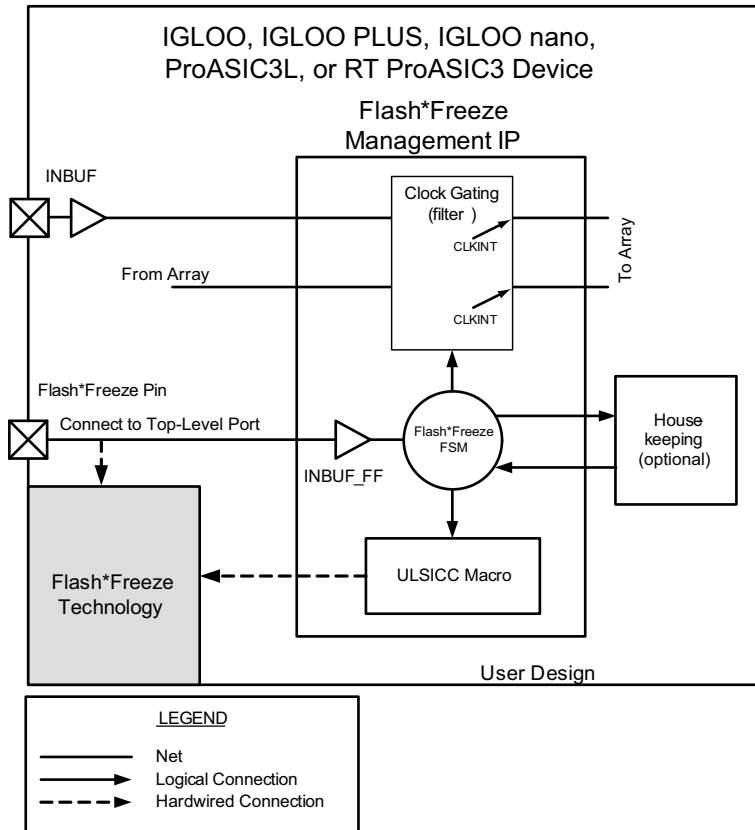

Figure 2-10 • Flash*Freeze Management IP Block Diagram
The Flash*Freeze management IP is comprised of three blocks: the Flash*Freeze finite state machine (FSM), the clock gating (filter) block, and the ULSICC macro, as shown in Figure 2-10.
- When the INBUF_FF macro is used, the FF pin will establish a hardwired connection to the Flash*Freeze technology circuit in the device, as shown in Figure 2-1 on page 25, Figure 2-3 on page 27, and Figure 2-10 on page 37, and described in the "Flash*Freeze Type 1: Control by Dedicated Flash*Freeze Pin" section on page 24.
The User Low Static ICC (ULSICC) macro allows the FPGA core to access the Flash*Freeze Technology block so that entering and exiting Flash*Freeze mode can be controlled by the user's design. The ULSICC macro enables a hard block with an available LSICC input port, as shown in Figure 2-3 on page 27 and Figure 2-10 on page 37. Design rules for the ULSICC macro are as follows:
| | Figure 2-5 • Narrow Clock Pulses During Flash*Freeze Entrance and Exit – new Figure 2-10 • Flash*Freeze Management IP Block Diagram – new | 30 |